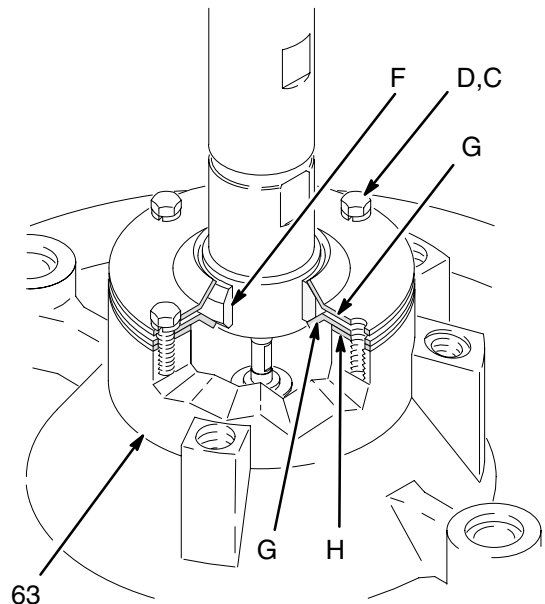

Fig. 5
4. Slide the top seal plate (G) up over the pump intake valve and push the seal (F) onto the pump intake housing. Leave the bottom seal plate (G) and gasket (H) in place. See Fig. 5.
5. Loosen the mounting bracket setscrews (35), and carefully lower the pump until the intake valve is below the gasket (H), then tighten the setscrews.
6. Push the seal (F) down firmly against the bottom seal plate (G).
7. Align the holes in the top seal plate with the holes in the ram plate (63). Secure tightly to the ram plate with the four screws (D) and washers (C).